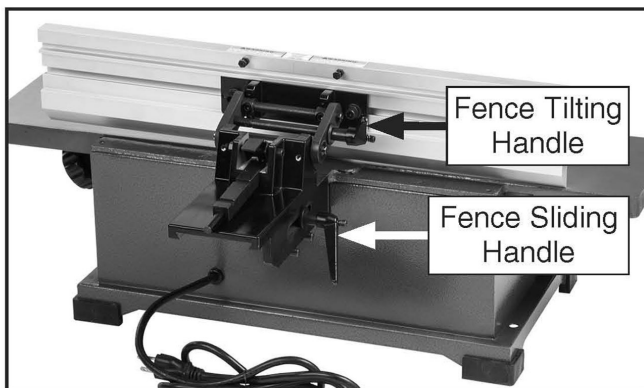

Figure 26. Fence carriage overview.
2. Loosen fence tilting handle (see **Figure 26**), and press limit plate tab forward into limit block rear slot.